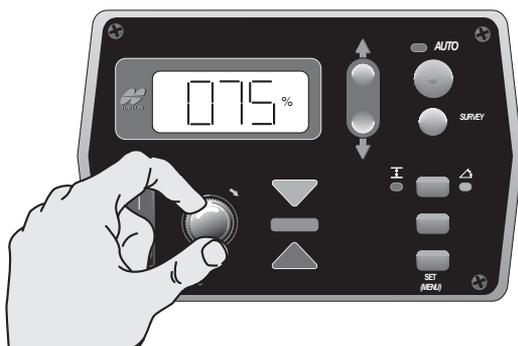

Figure 4-38. Select Value
2. Turn the Grade Adjustment Knob to select the desired value, typically 075 (Figure 4-38).